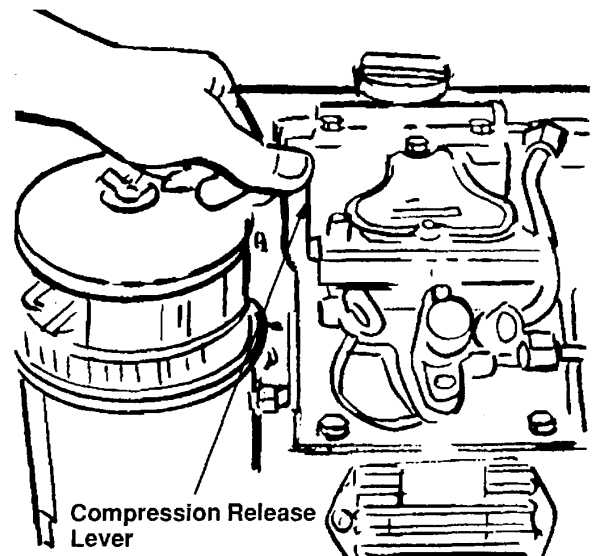

Figure 2-9. Activating Compression Release Lever
- b. Push compression release lever on top of engine toward the rear of trailer and hold, fig. 2-9.
- c. Crank engine by turning starter switch to "start" position, fig. d. When engine starts. after a couple of revolutions, release compression release lever, fig. 2-9.